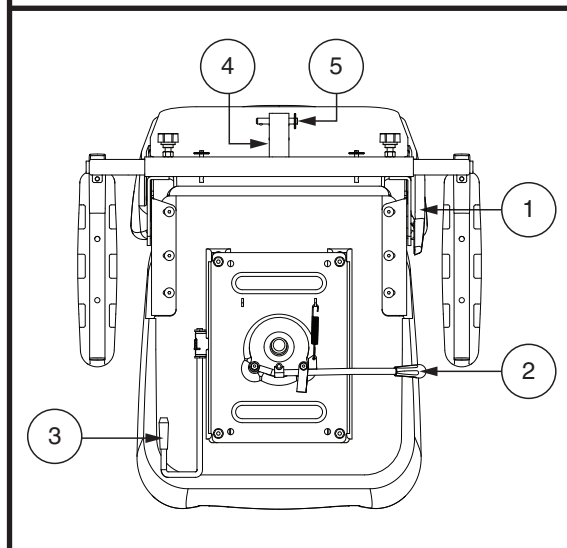

Figure 20. Seat Adjustments – Style B
If your scooter is equipped with a reclining seatback, you can adjust the seatback angle with the seatback adjustment lever. See figure 20.
1. Move the seat sliding lever (located at the lower left side of the seat) outward. See figure 20.
Armrest angle of your scooter can be adjusted upwards or downwards by turning the adjustment. See figure 20.
The rear-mounted accessory bracket allows you to attach a personal accessory such as a basket, walker holder, or oxygen tank to the back of your scooter. Utilize the detent pin to securely mount your item to the accessory bracket. See figure 20. See your authorized Provider for details.